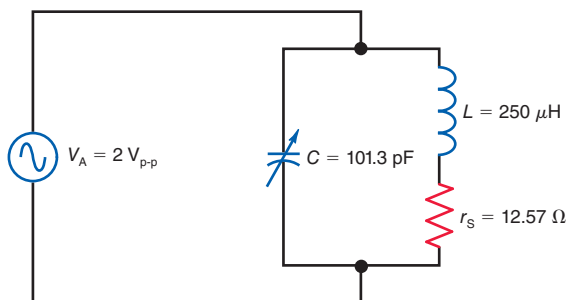

Figure 22-19
22.22 In Fig. 22-19, calculate the following:
22.25 In Fig. 22-19, calculate the Q and bandwidth, Δf , if a 2-M Ω resistor is placed in parallel with the tank circuit.
22.27 Repeat Prob. 22.26 for Fig. 22-19.